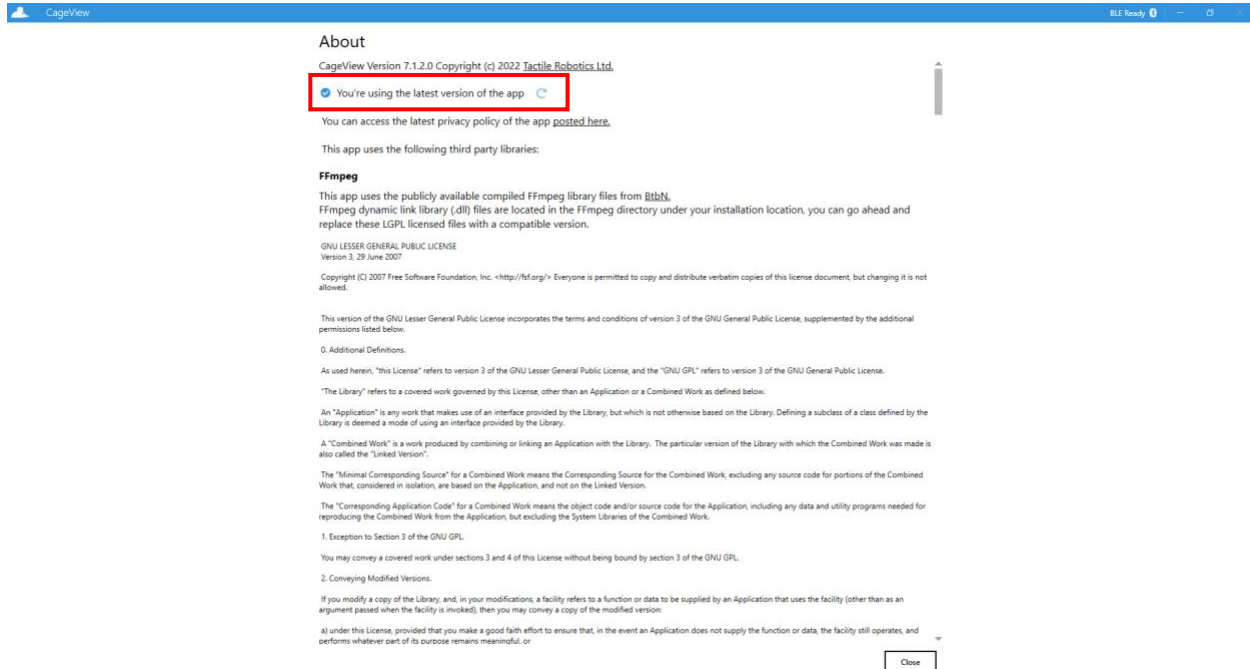

Figure 6. Using the latest version
4.3. If the CageView App is up to date, clicking the () button will show information and a statement that the user is using the latest version of the App (**Figure 6**).